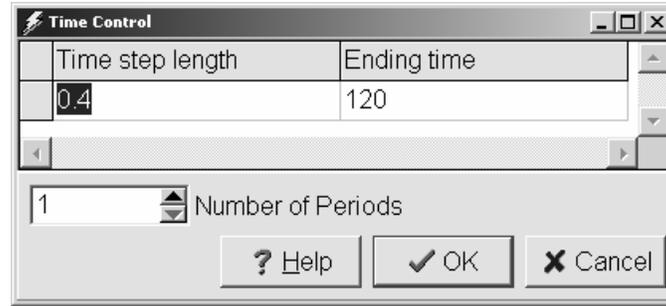

Figure 40. Time Control dialog box showing how to set up the time control for example 1.
19. The model has a duration of 120 seconds with time steps lasting 0.4 seconds. Select **PHAST Options|Time Control...** and set the **Time step length** to 0.4 and the **Ending time** to 120 (fig. 40). Click **OK** to close the dialog box.